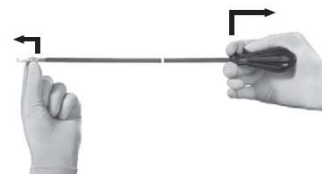

Fig. 2
- Pull back shaft 4 towards handle 2 and detach working tip 5, see Fig. 2.